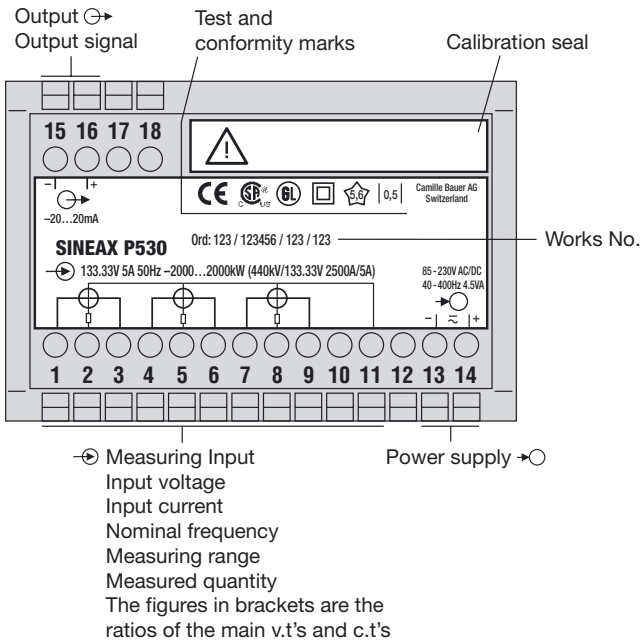

Fig. 5. Declaration to type label.
... the data required to carry out the prescribed measurement must correspond to those marked on the nameplate of the SINEAX P530/Q531 (⊖→ measuring input, ⊖→ measuring output and →⊖ power supply, see Fig. 5)!
- Remove the calibration seal (small sticker, Fig. 5).